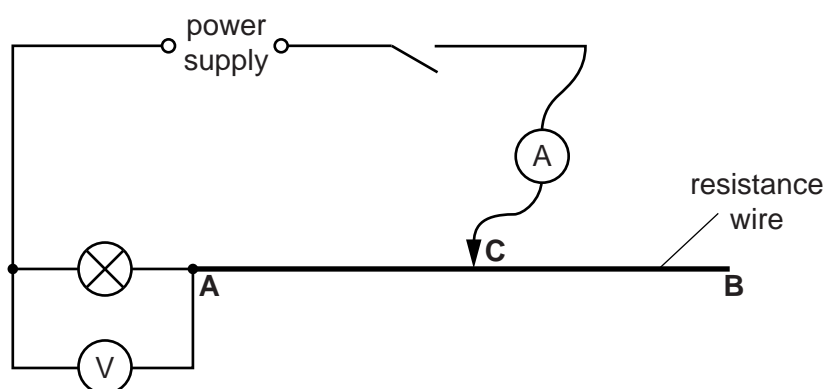

Fig. 2.1
- (iii) Ammeter capable of measuring the current in the circuit shown in Fig. 2.1 with a precision of at least 0.02 A.
- (iv) A lamp in a suitable holder. The lamp must glow when connected as shown in Fig. 2.1, and not blow if the sliding contact is moved to a distance 10 cm from **A**.
- (vii) Two suitable terminals (e.g. crocodile clips) attached to the constantan wire at the ends of the metre rule so that connections can be made to the circuit shown in Fig. 2.1.
- (ix) Sufficient connecting leads to set up the circuit shown in Fig. 2.1.
1. The circuit is to be set up for the candidates as shown in Fig. 2.1.
Check that the circuit is arranged as shown in Fig. 2.1.